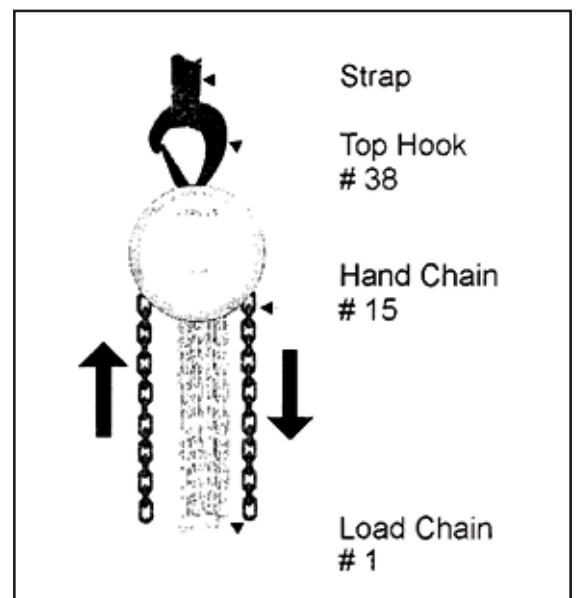

Figure 3- Lowering the Load
- **Step 5.** Use the HAND CHAIN to lower the load as shown in Fig. 3.